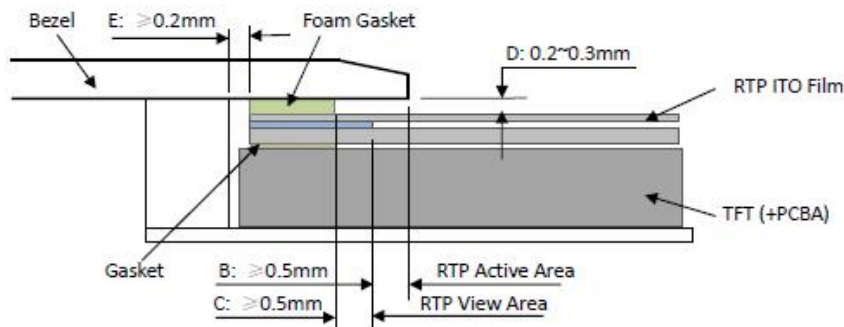

Figure 4
- It should bezel touching the RTP Active Area (A.A.) to prevent abnormal touch. It should left gap D=0.2~0.3mm in between. (Figure 4)
- Outer bezel design should take care about the area outside the A.A. Those areas contain circuit wires which is having different thickness. Touching those areas could de-form the ITO film. As a result bezel the ITO film be damaged and shorten its lifetime. It is suggested to protect those areas with gasket (between the bezel and RTP). The suggested figures are B≥0.50mm; C≥0.50mm. (Figure 4)
- The bezel side wall should keep space E = 0.2 ~ 0.3mm from the RTP. (Figure 4)
- 为避免面框直接压在动作区(A. A.)上造成误动作，面框与电阻触摸屏(RTP)之间应留有一定的空隙 D=0.2~0.3mm 之间。(附图 4)
- 设计面框时，要注意用面框保护触摸屏四周的非保证操作区域，因为布线区域在此处形成一台阶，在此区域附近操作时 ITO Film 变形较大，容易导致 ITO 损坏而降低寿命。为保护 RTP 和避免误操作，在 RTP 与面框之间垫缓冲物(Gasket)，我们建议设计面框应覆盖动作区的边缘，面框边缘到 V. A. 区的距离 B≥0.50mm；垫圈内边缘到 V. A. 区的距离 C≥0.50mm。(附图 4)
- 在设计面框与 RTP 组装时，应考虑到面框内侧与 RTP 外侧的间距 E≥0.2mm。(附图 4)